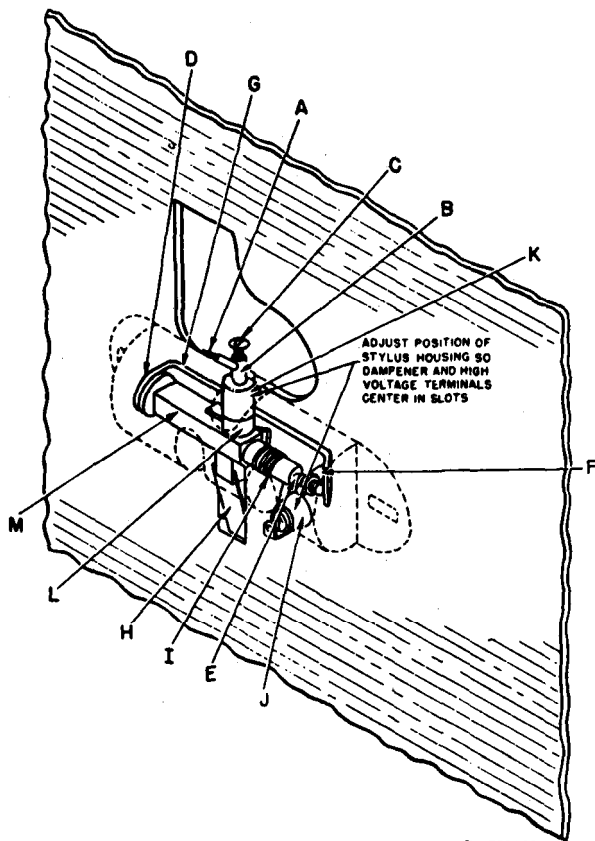
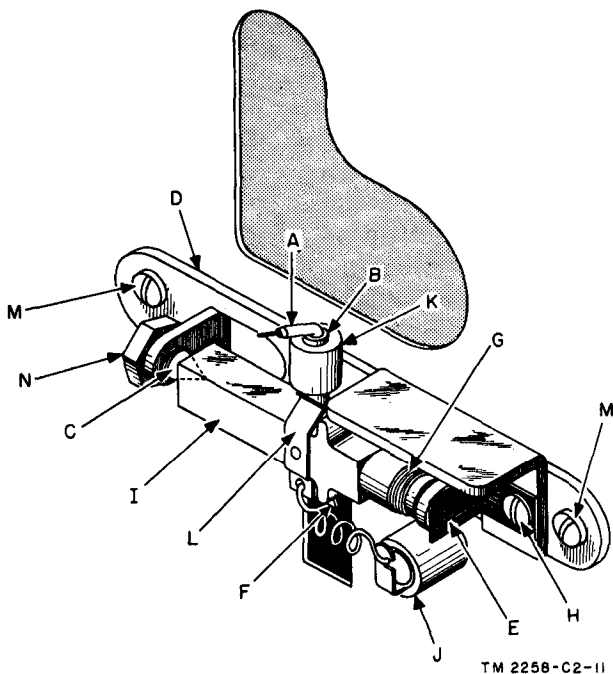

Figure 125. Stylus holder assembly, Facsimile Transceivers TT-1/TXC-1, TT-1A/TXC-1, and TT-1B/TXC-1.
Figure 127. Stylus holder assembly, Facsimile Transceivers TT-1D/TXC-1, TT-1E/TXC-1, and TT-1F/TXC-1.
*c. Stylus Actuating System.* After working the switch, be sure that the adjustments of the stylus actuating system are not upset. If the stroke is too long, make correction by bending the actuating arm attached to the selector switch. The stylus holder assembly for Facsimile Transceiver TT-1/TXC-1 through TT-1C/TXC-1 is shown in figures 125 and 126. Figure 127 shows the stylus holder assembly for Facsimile Transceivers TT-1D/TXC-1, TT-1E/TXC-1, and TT-1F/TXC-1.
*d. Stylus Holder Assembly, Facsimile Transceivers TT-1/TXC-1, TT-1A/TXC-1, TT-1B/TXC-1, and TT-1C/TXC-1, Parts Description* (figs. 125 and 126).
e. Stylus Holder Assembly, Facsimile Transceivers TT-1D/TXC-1 and TT-1E/TXC-1, and TT-1F/TXC-1, Parts Description (fig. 127).
There are two adjustments that can be made to the stylus holder in these models (fig. 127).